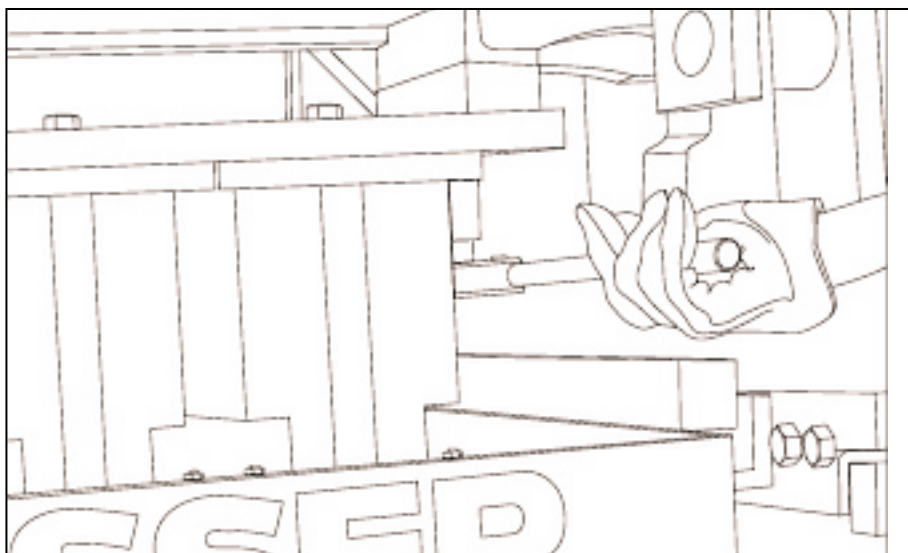

Figure 5.3 REMOVING BOLTS FROM BOLT STRIPPER HEAD PLATE.
- 5.3.12 Remove bolts holding the head assembly (figure 5.3).